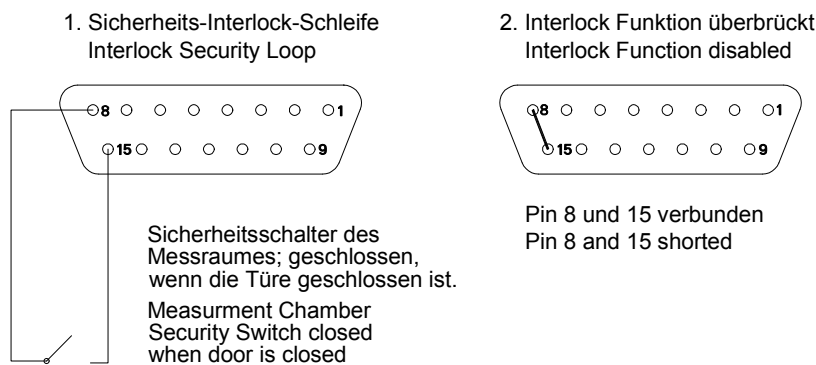

Fig. 7-1 Pin assignment of remote control and interlock connector
- Indication: **Interlock External** Check the connection to the external interlock switch or jumper in the interlock connector (see Fig. 7-1).